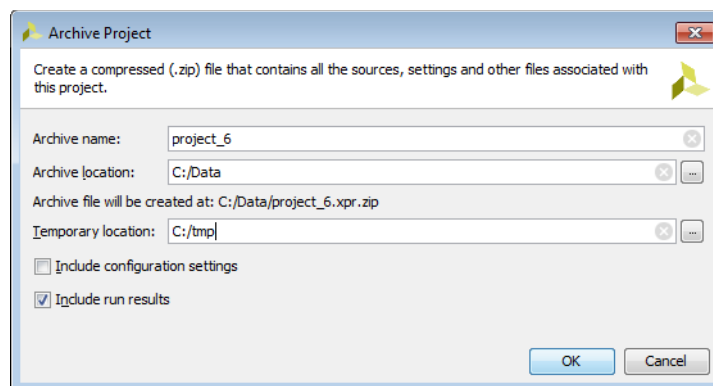

Figure 2-14: Archive Project Dialog Box
2. In the Archive Project dialog box (Figure 2-14), set the following options, and click **OK**.